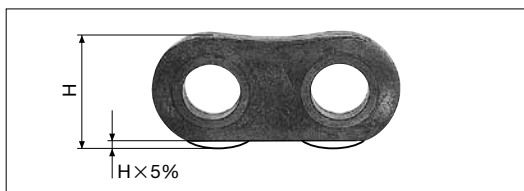

Fig. 26 Wear on the edges of the link plates
- 2-2. When wear occurs from sliding between the edges of the plates and the guides, it is necessary to adjust the position of either the chain or the guides. The allowable wear on the link plates is limited to 5% of their height. (Fig. 26)